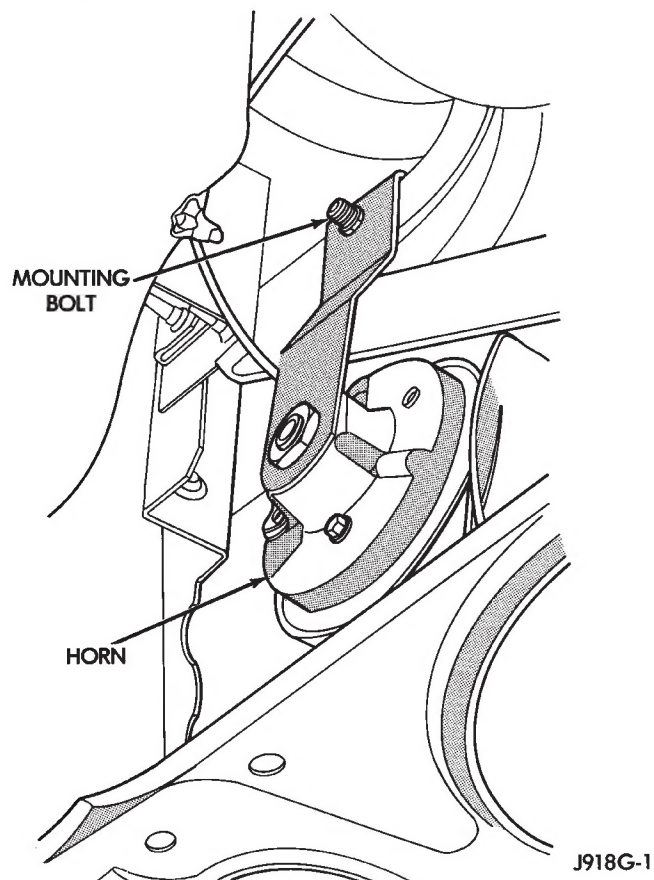

Fig. 3 Horn Mounting - XJ
- (1) Raise and support the vehicle.
- (2) Remove the front underbody splash shield.
- (3) Remove horn mounting bolt and horn (Fig. 3).